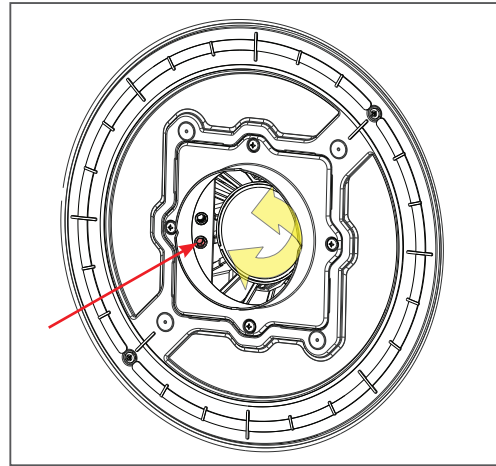

fig. 23 (rotate)
2. Using the same 4 mm hex tool, use the rotate control point to rotate the optic (see fig 23).